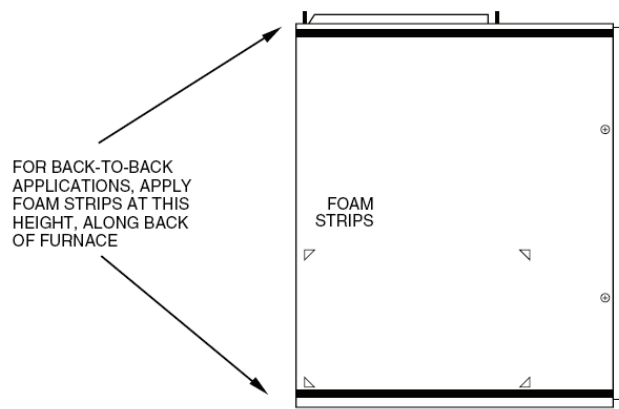

Fig. 5 - Location of Foam Strips
5. Apply 2 factory-supplied foam strips to mating side of each furnace. Locate strips equal distance from top and bottom as shown in Fig. 5. Trim off excess material.
5. Apply 2 factory-supplied foam strips to the back of each furnace. Locate strips equal distance from top and bottom as shown in Fig. 5. Trim off excess material.